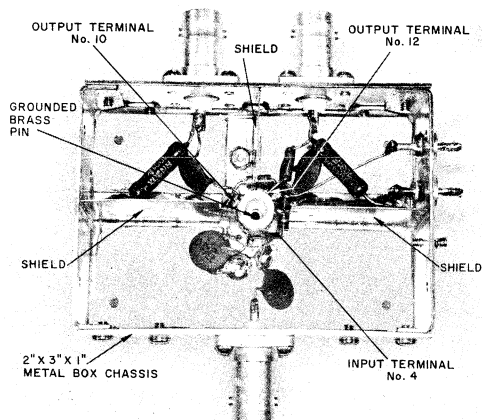

Fig. 6 - Test Circuit Layout
Stable high-frequency operation requires that proper high-frequency construction techniques be followed. The photograph of Fig.6 illustrates the precautions taken in the construction of the test circuit of Fig.3.
1. Use sockets only when necessary. Sockets, when used, must provide shielding within the pin circle. The socket shown in the chassis of Fig.6 is a Barnes MG-1201, or equivalent, modified by drilling a 1/8" hole in the center and inserting a grounded brass pin.